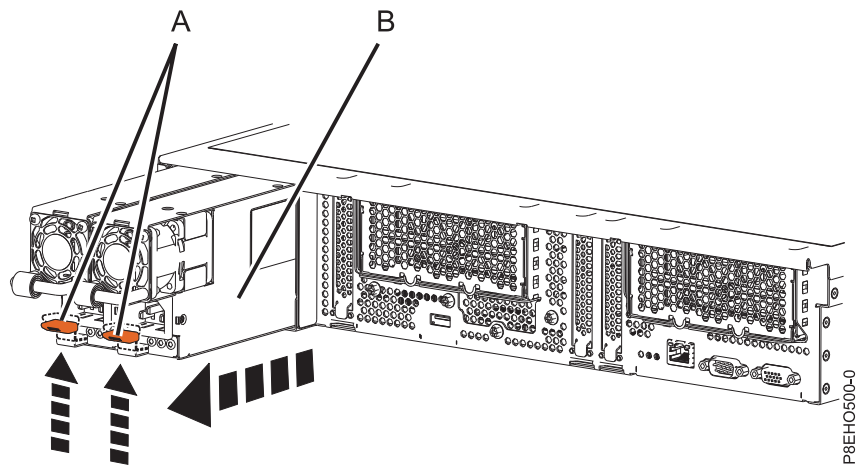

Figure 52. Removing a power supply from the system
- a. To unseat the power supply from its position in the system, pull up the terracotta locking-tab (A). See Figure 52.
- b. Grasp the power supply handle with one hand, and pull the power supply (B) part of the way out of the system.